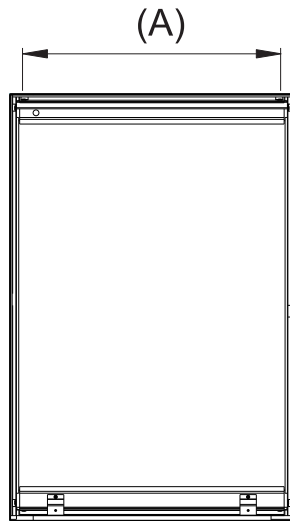

Fig.13
- 1.2 After selecting the location of the mirror cabinet, check whether the wall is solid, and measure the distance of the holes (A) in the aluminum alloy bar with a tape measure and mark it on the wall with a pencil (Fig.13).